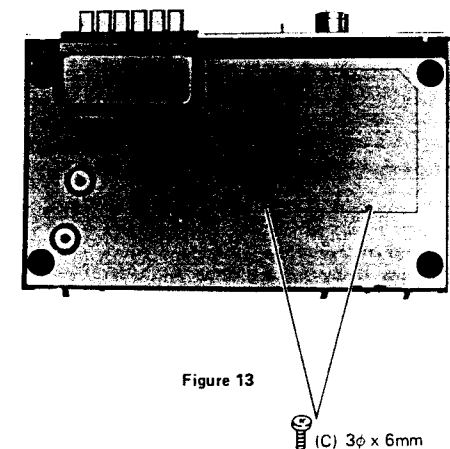

Figure 13
1. Remove two screws (C) from the bottom plate. (See Figure 13).